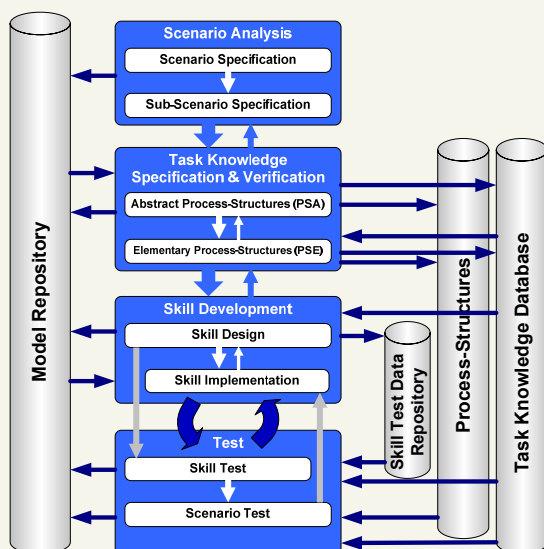

Figure 2: Process model ProDevSSR
- Eight development steps are defined and four repositories are used (see Figure 2)